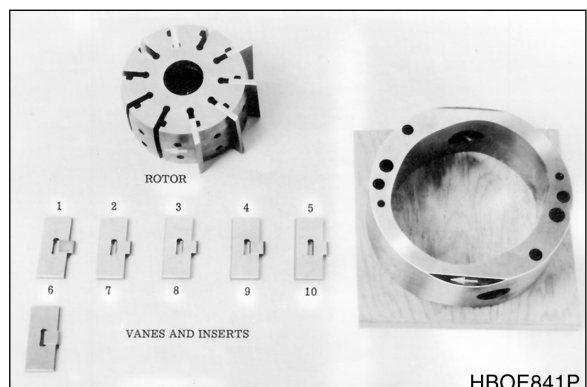

Figure 21
- C. For right-hand rotation units, set rotor on flat wooden board with arrow pointing right. (For left-hand rotation arrow should point left.) Assemble vanes and inserts into rotor in reverse order. (See Figure 21.) Make sure sharp chamfer edge of each vane leads in direction of rotation. All vanes must move freely in rotor slots with no evidence of bind.